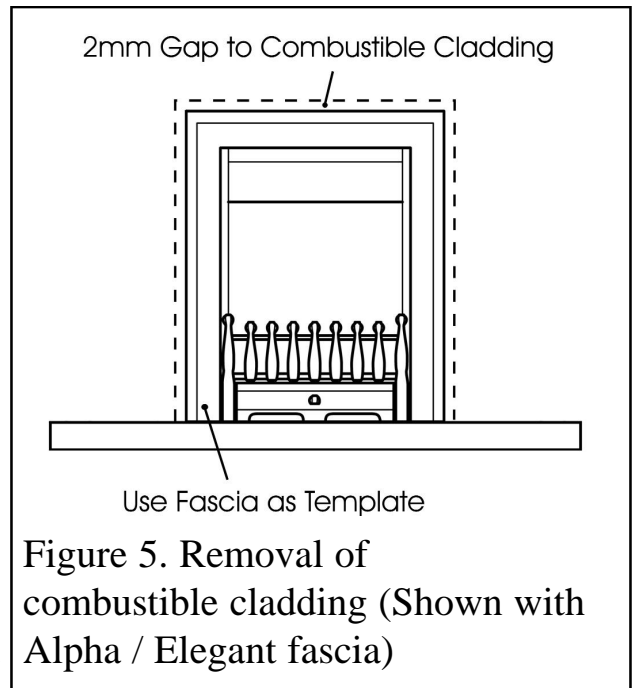

Figure 5. Removal of combustible cladding (Shown with Alpha / Elegant fascia)
3.21 If the appliance is to be fitted against a wall with combustible cladding, the cladding must be removed from the area covered by the fascia. The cladding must also not touch the fascia (See figure 5). We suggest that the actual fascia is used as a template to mark the area for combustible cladding removal and that this area is increased by at least 2mm all round.
The fireplace floor should be reasonably flat to ensure that the convector box can be installed without it rocking and so that a good seal can be made at the bottom front of the box. The front face of the fireplace should be reasonably flat over the area covered by the convector box top and side flange seals to ensure good sealing. These faces should be made good if necessary. If the appliance is to be fitted against a wall with combustible cladding, the cladding must be removed from the area covered by the fascia. The cladding must also not touch the fascia (See figure 5). We suggest that the fascia is used as a template to mark the area for combustible cladding removal and that this area is increased by at least 2mm all round.